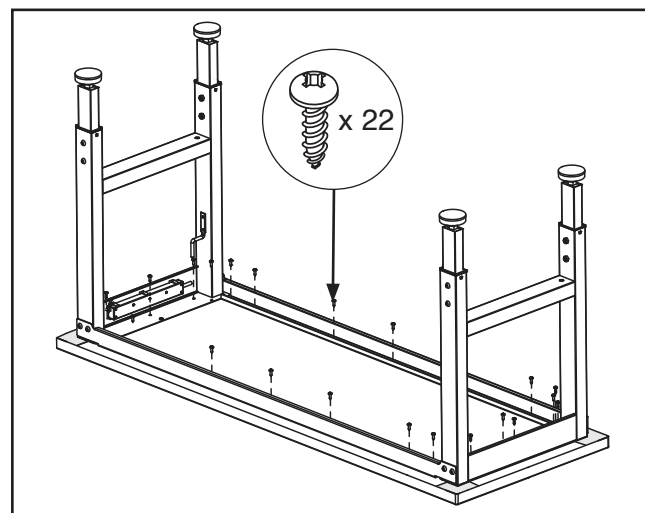

Figure 5. Attaching leg assembly to table.
3. Place leg assembly on table and align all corners with positioning labels, then secure leg assembly to table using (22) M5 x 15 tap screws (see **Figure 5**).